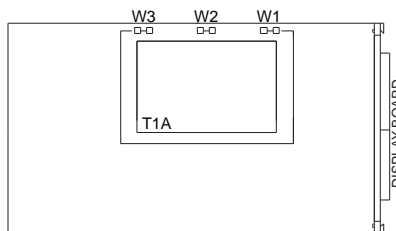

Figure 3-1. Main Board Power Jumpers (W1, W2, W3)
3.2 MAIN BOARD POWER JUMPERS (refer to Figure 3-1)
Figure 3-1 shows the location of solder jumpers W1 through W3.